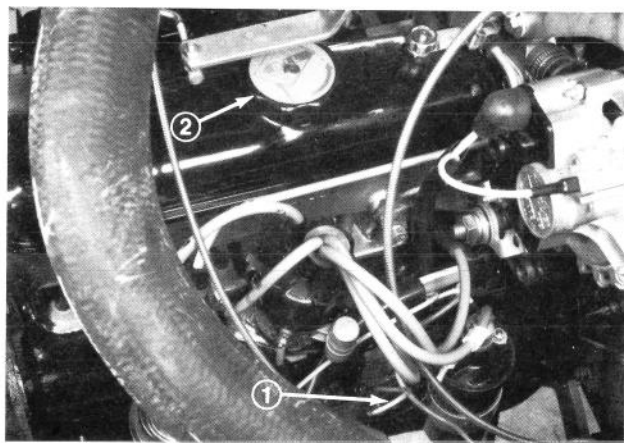

Figure 17
3. Remove dipstick and wipe it with a clean rag. Push dipstick down into the tube and ensure it is seated fully. Pull dipstick out of the tube and check level of oil. If oil level is low, remove filler cap (Fig. 17) and add enough oil to raise level to top of flat at end of dipstick. **DO NOT OVERFILL.**